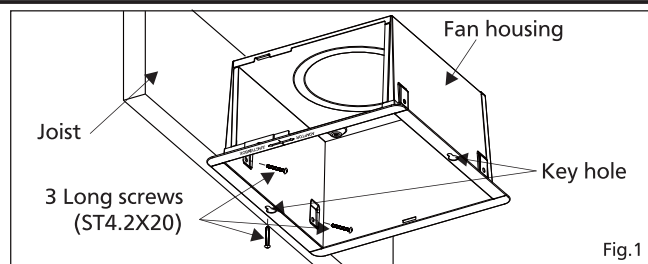

Fig.1
1. Affix the fan housing to joist with 3 long screws (ST4.2X20) by affixing first 1 screw on the bottom of the joist, hang up the fan housing through the key hole, tighten the screw, then affix other 2 screws. (Fig.1)